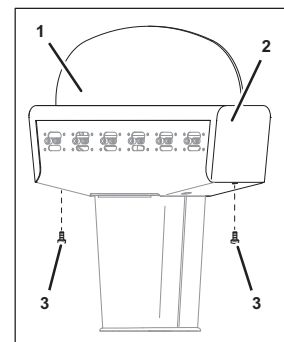

Fig. 26
1. Remove the fastening bolts (Fig. 26/3) from the hood (Fig. 26/2).
2. Lift and remove the hood (Fig. 26/2) with moonlight disc (Fig. 26/1) from the unit.
- Position the hood (Fig. 26/2) with moonlight disc (Fig. 26/2) on the unit.
- Attach the hood (Fig. 26/2) using the fastening bolts (Fig. 26/3).